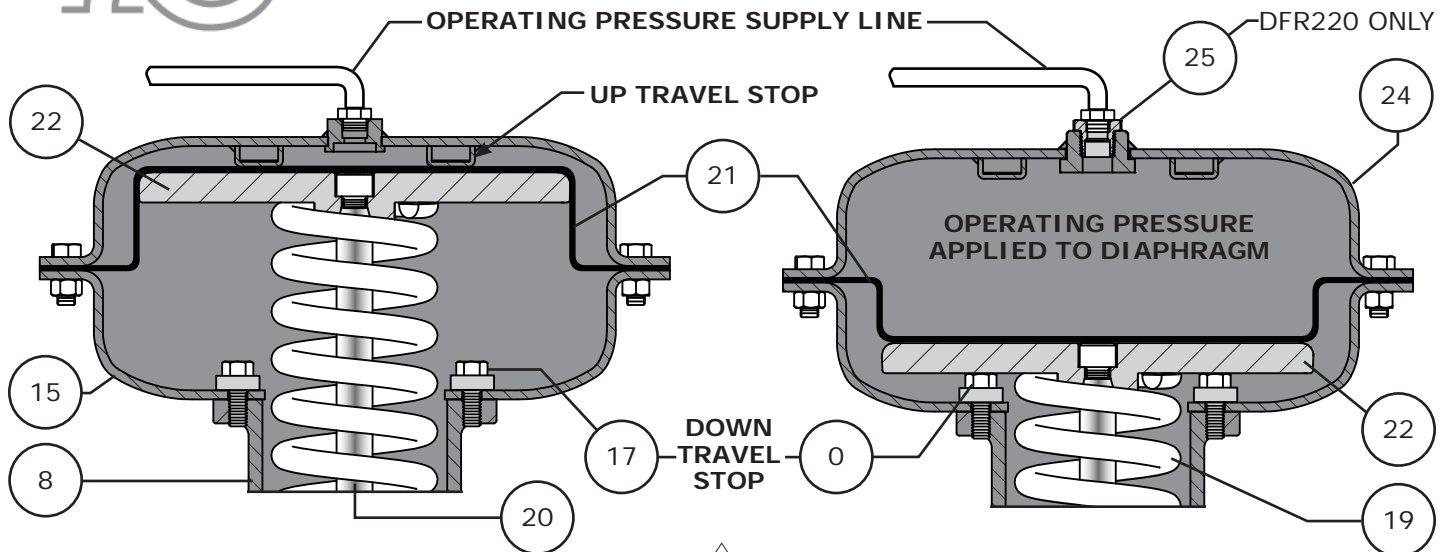

Figure 9 Actuator Operation
- A Release all operating pressure from the diaphragm casing, make sure that the diaphragm (Key 21) is resting against the up travel stop. Refer to Figure 9.
- E** Again, apply operating pressure to the diaphragm casing until the turnbuckle (Key 29) is accessible through the access plate (Key 48) opening. Repeat Steps B to D until the control valve is in its closed position when the diaphragm (Key 21) is resting against its up travel stop (Key 24). Refer to Figure 9.